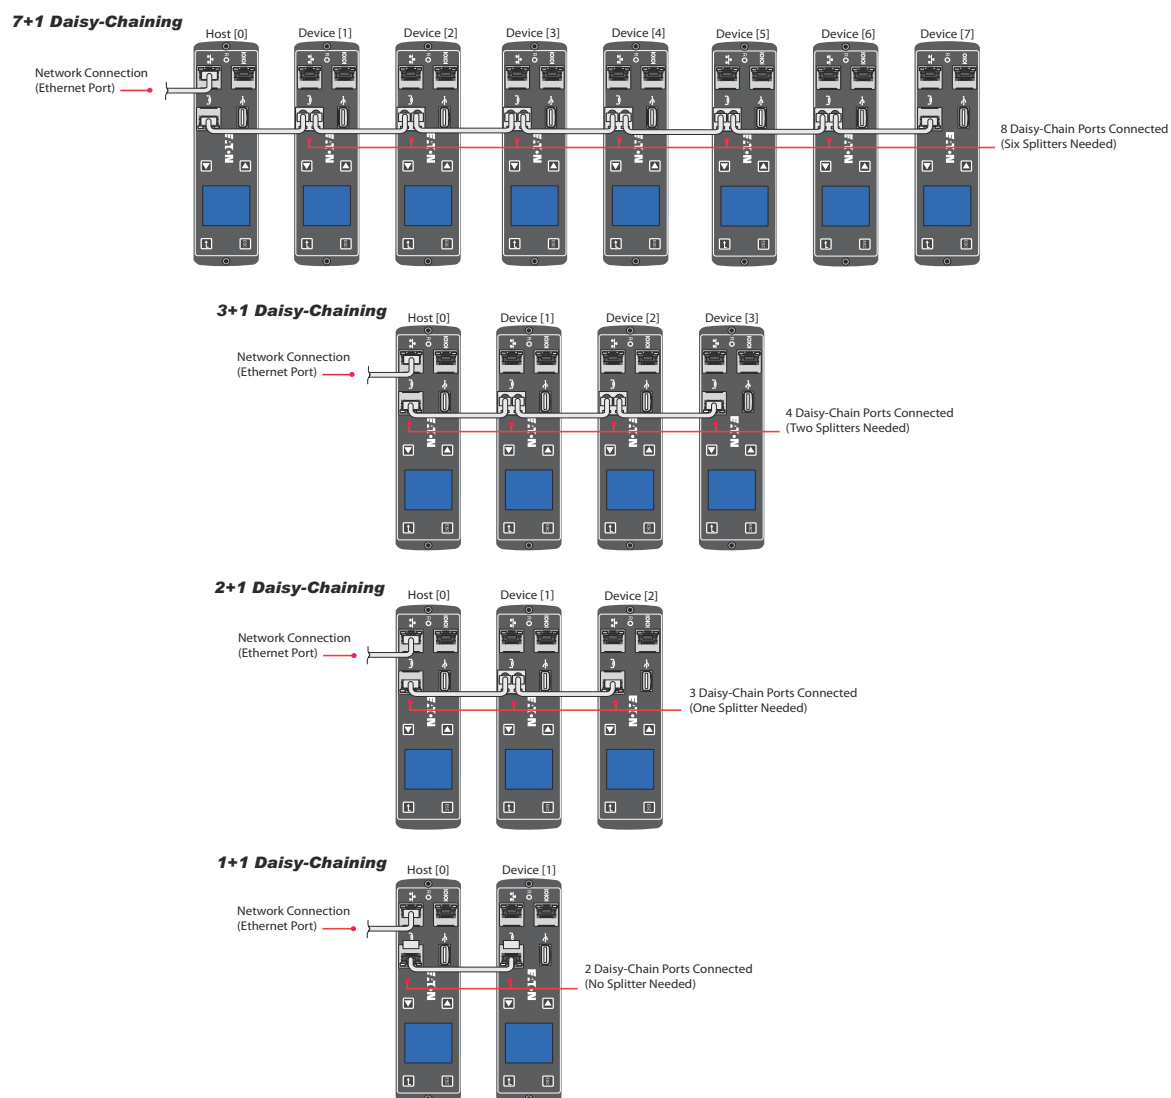
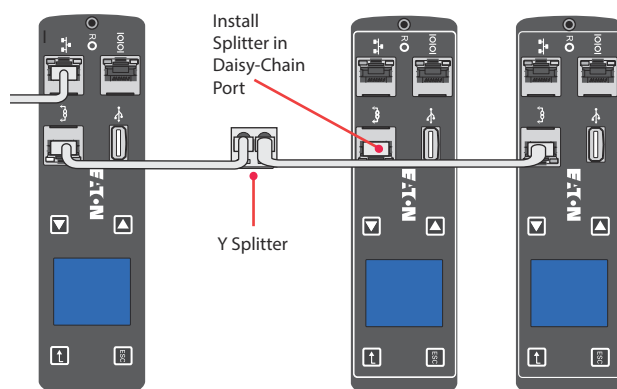

Figure 34. Locating the Daisy Chain Connector
Figure 35. Y Splitter in Daisy-Chain Port (2+1 Daisy-chaining Shown)
3. Connect one end of the cable to the Daisy Chain connector on one ePDU. Connect the other end of the cable to the Daisy Chain connector on the other ePDU as shown in Figure 34.
5. Insert a Y splitter in the Daisy Chain connector for all ePDUs between the Host and the last ePDU in the chain, as shown in Figure 34 and Figure 35.